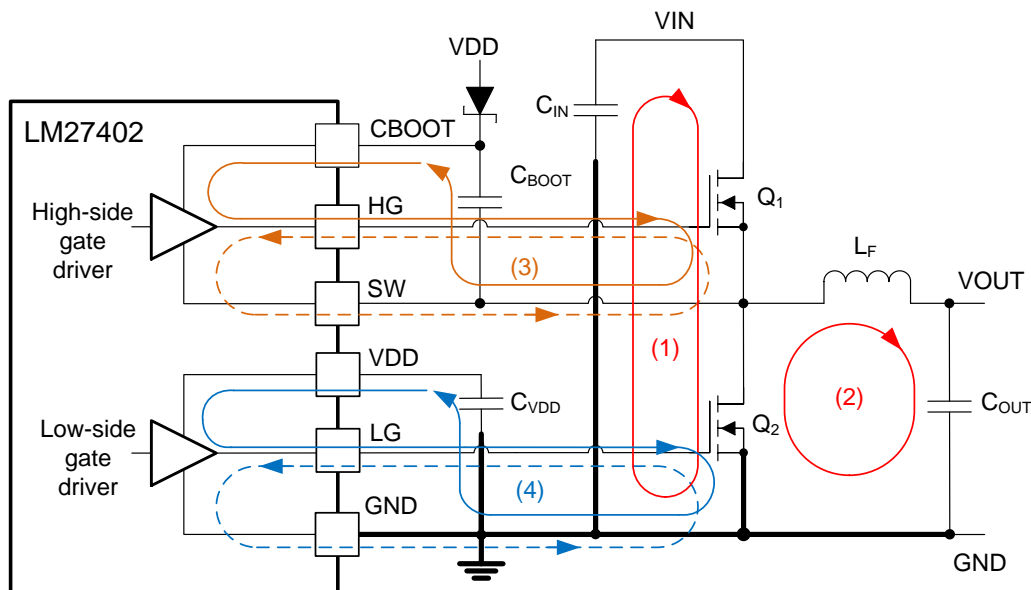

Figure 48. DC/Dc Converter Ground System With Power Stage and Gate Drive Circuit Switching Loops
Careful PCB design and layout are important in a high current, fast switching circuit (with high current and voltage slew rates) to assure appropriate device operation and design robustness. As expected, certain issues must be considered before designing a PCB layout using the LM27402. The main switching loop of the power stage is denoted by 1 in Figure 48. The buck converter topology means that particularly high di/dt current will flow in loop 1, and it becomes mandatory to reduce the parasitic inductance of this loop by minimizing its effective loop area. For loop 2 however, the di/dt through inductor  $L_F$  and capacitor  $C_{OUT}$  is naturally limited by the inductor. Keeping the area of loop 2 small is not nearly as important as that of loop 1. Also important are the gate drive loops of the low-side and high-side MOSFETs, denoted by 3 and 4, respectively, in Figure 48.
- Loop 1: The most important loop to minimize the area of is the path from the input capacitor(s) through the high- and low-side MOSFETs, and back to the capacitor(s) through the ground connection. Connect the input capacitor(s) negative terminal close to the source of the low-side MOSFET (at ground). Similarly, connect the input capacitor(s) positive terminal close to the drain of the high-side MOSFET (at VIN). Refer to loop 1 of Figure 48.
- Loop 2. The second important loop is the path from the low-side MOSFET through inductor and output capacitor(s), and back to source of the low-side MOSFET through ground. Connect source of the low-side MOSFET and negative terminal of the output capacitor(s) at ground as close as possible. Refer to loop 2 of Figure 48.
- 5. The SW pin connects to the switch node of the power conversion stage, and it acts as the return path for the high-side gate driver. The parasitic inductance inherent to loop 1 in Figure 48 and the output capacitance ( $C_{OSS}$ ) of both power MOSFETs form a resonant circuit that induces high frequency (>100 MHz) ringing on the SW node. The voltage peak of this ringing, if not controlled, can be significantly higher than the input voltage. Ensure that the peak ringing amplitude does not exceed the absolute maximum rating limit for the SW pin. In many cases, a series resistor and capacitor snubber network connected from the SW node to GND damps the ringing and decreases the peak amplitude. Provide provisions for snubber network components in the printed circuit board layout. If testing reveals that the ringing amplitude at the SW pin is excessive, then include snubber components.
- Loop 3: high-side MOSFET,  $Q_1$ . During the high-side MOSFET turn on, high current flows from the boot capacitor through the gate driver and high-side MOSFET, and back to negative terminal of the boot capacitor through the SW connection. Conversely, to turn off the high-side MOSFET, high current flows from gate of the high-side MOSFET through the gate driver and SW, and back to source of the high-side MOSFET through the SW trace. Refer to loop 3 of Figure 48.
- Loop 4: low-side MOSFET,  $Q_2$ . During the low-side MOSFET turn on, high current flows from VDD decoupling capacitor through the gate driver and low-side MOSFET, and back to negative terminal of the capacitor through ground. Conversely, to turn off the low-side MOSFET, high current flows from gate of the low-side MOSFET through the gate driver and GND, and back to source of the low-side MOSFET through ground. Refer to loop 4 of Figure 48.